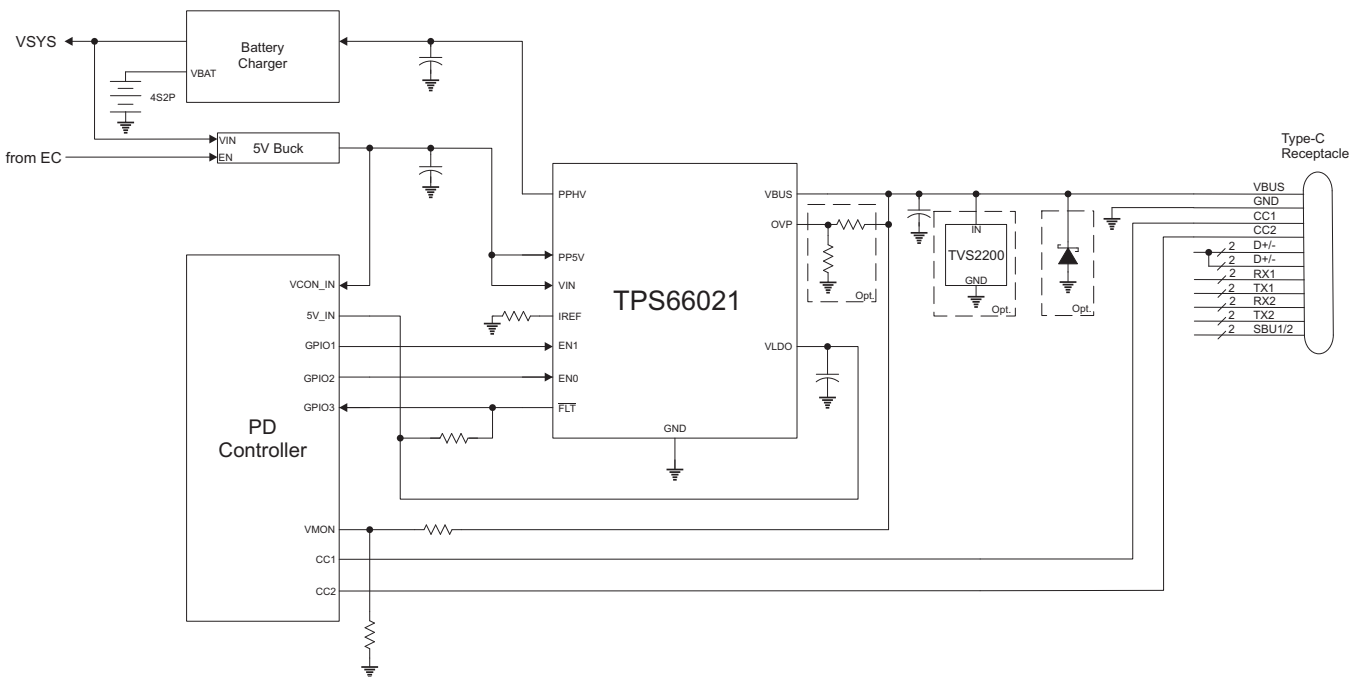
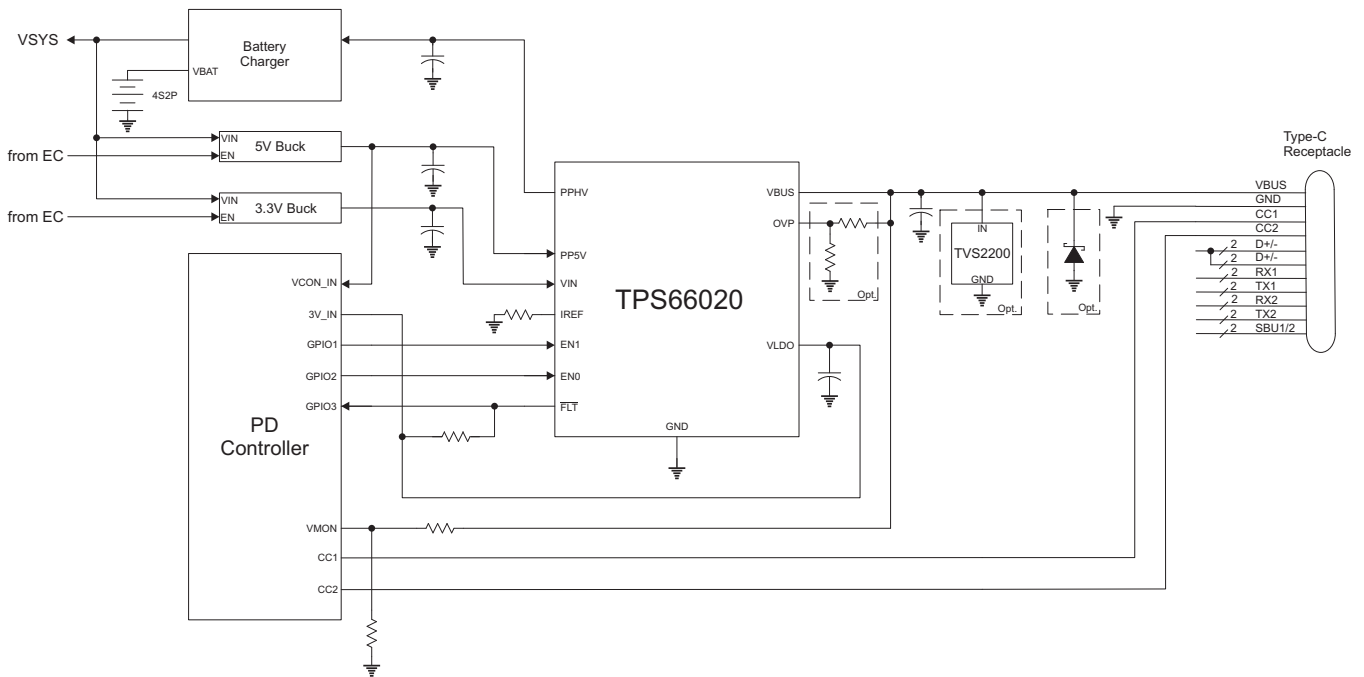

图 28. Single Port Type-C PD Port Using a Single 5-V Supply
图 29. Single Port Type-C PD Port Using a 3.3-V Supply
图 28 shows a USB Type-C single port design using a Power Delivery (PD) controller that supports 5-V operation. For this system, a single 5-V supply is used to supply power to the PP5V and VIN supplies of the TPS66021, as well as, the connector power, VCONN. The TPS66021 supplies power to the 5-V supply of the PD controller via its VLDO output which is sourced either from the integrated 5-V VBUS LDO for dead battery condition or from VIN once the dead battery condition ends.
Similarly, 图 29 shows a USB Type-C single port design using a PD controller that only supports 3.3-V operation. In this case, a separate 3.3-V supply in the system is used to supply power to the TPS66020. The TPS66020 supplies power to the 3.3-V supply of the PD controller via its VLDO output which is sourced either from the integrated 3.3-V VBUS LDO for dead battery condition or from VIN once the dead battery condition ends.
The PPHV power path is a Sink. The capacitance on the PPHV shown in 图 29 represents capacitance of the charger sub-system. In a typical application, this capacitance can be in the range of 47 uF up to 100 uF, far exceeding the 1-uF minimum specification for the TPS6602x, so no external capacitance is required to meet this requirement in most cases. As per the PD Specification, the total capacitance on VBUS should be maximum 10 uF at connection.
The TPS6602x integrates a high-voltage VBUS LDO that can be used to supply power to a PD Controller and other supporting circuitry when only VBUS power is available, such as in a dead battery condition. As shown in 图 29, the TPS66020 VLDO output supplies power to the PD Controller's 3V_IN supply. Similarly, 图 28 shows the TPS66021 VLDO output supplies power to the PD Controller's 5V_IN supply. During a dead battery condition, the PD Controller presents its Type-C RPD pull-downs on the CC1 and CC2 lines. Upon connection to a Type-C/PD Source, 5 V is provided to VBUS from the Source partner which powers the TPS6602x. The VBUS LDO is enabled and provides power to the PD Controller. Once powered, the PD Controller can decide to enable the TPS6602x PPHV Sink path by asserting EN0 high and use the 5-V VBUS to charge the battery or it may choose to negotiate a higher voltage contract first. Either way, once the contract is negotiated, the PD Controller will enable the PPHV Sink path and charge the system. Once the system is sufficiently charged, the VIN terminal will rise and will exceed the VIN UVLO threshold. If VIN remains above the UVLO threshold for t_{VIN_STABLE} , VLDO will be supplied from VIN and the VBUS LDO will be disabled.